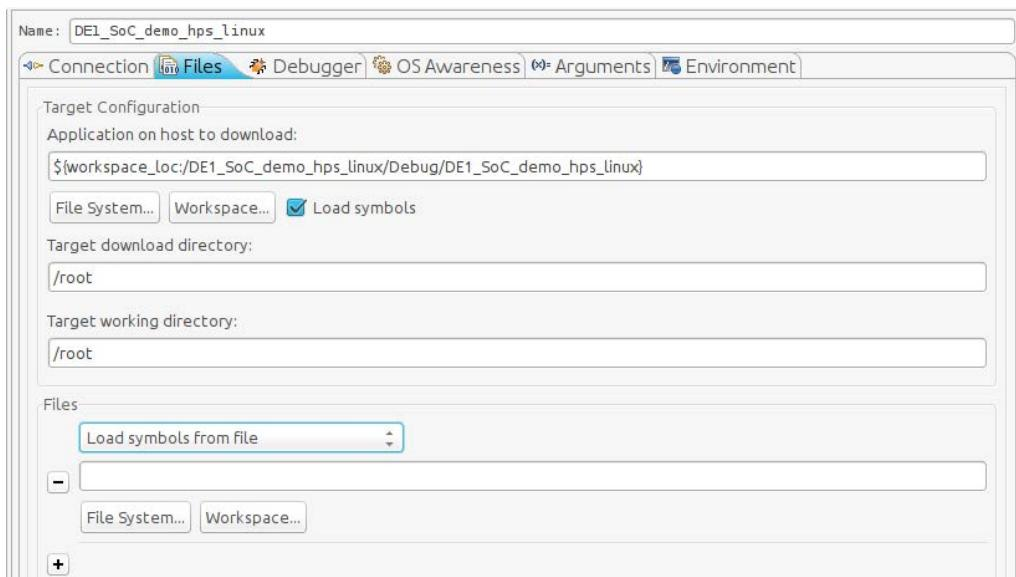

Figure 13-14. Debug Configuration "Files" Tab
- Set the "Target working directory" to "/root". You should have something similar to Figure 13-14.